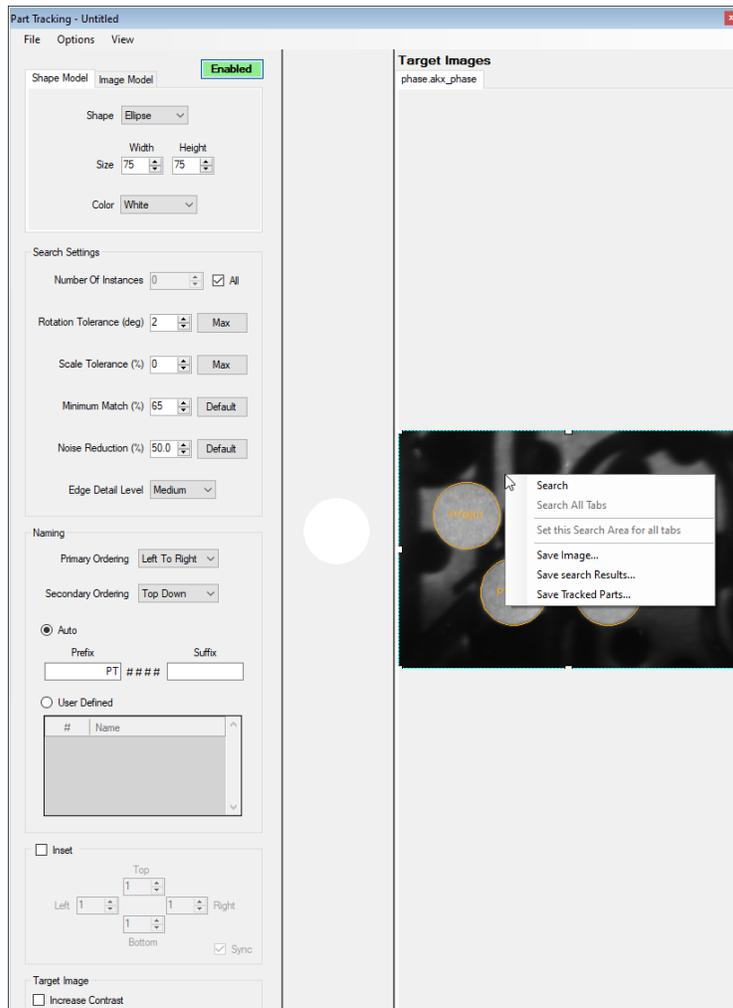

Figure 2.48 Part Tracking window with Target Image
- **View** – Allows the user to show or hide the Model and Target Images display. See the result with both being shown in **Figure 2.48**.